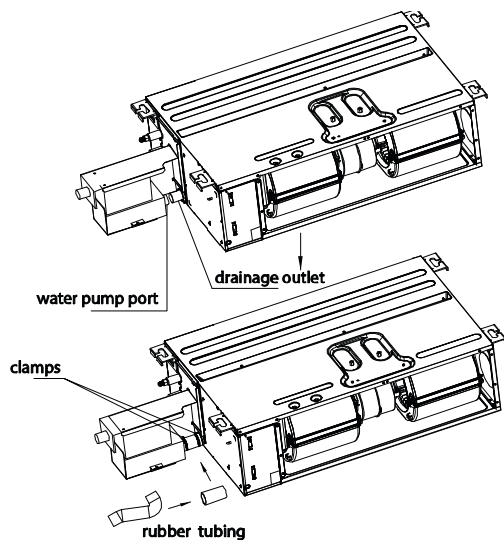

Fig. 30 — Condensate lift pump installation sizes 09K-12K
- Connect the drainage outlet and condensate lift pump using the rubber tubing and secure it with clamps on both ends (see Fig. 30).